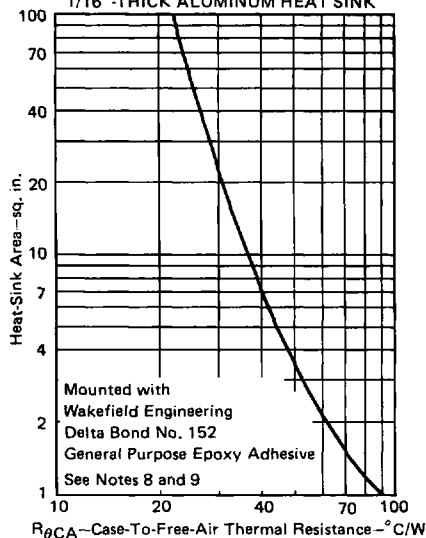

FIGURE 4
3. Determine area of heat sink from Figure 4.
Figure 4 shows that for  $R_{\theta CA}$  of 32°C/W, the area is 18 sq. in. The minimum dimensions of the sides should be: